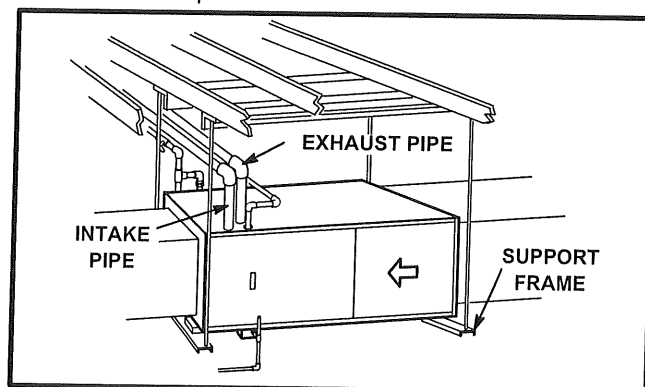

FIGURE 20
- 3 - Install unit on support frame as shown in figure 20. Unit must be level to ensure proper coil drainage. Leave 5-1/2 inches for service clearance below unit for condensate trap.